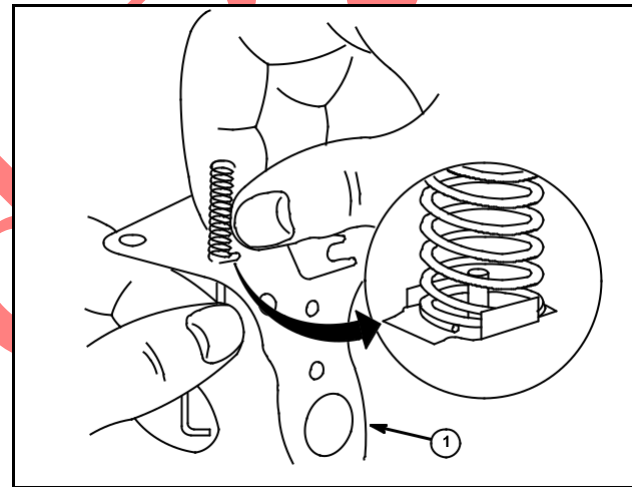

Fig. 40
6. If a new diaphragm (1) is being installed, assemble choke spring to diaphragm, as shown in Fig. 40. See Table No. 4, specifications for correct spring usage. Be careful not to bend or distort spring.
4. If a new diaphragm is being installed, assemble choke spring to diaphragm, as shown in Fig. 40. See Table No. 2, specifications, for correct spring usage. Be careful not to bend or distort spring.